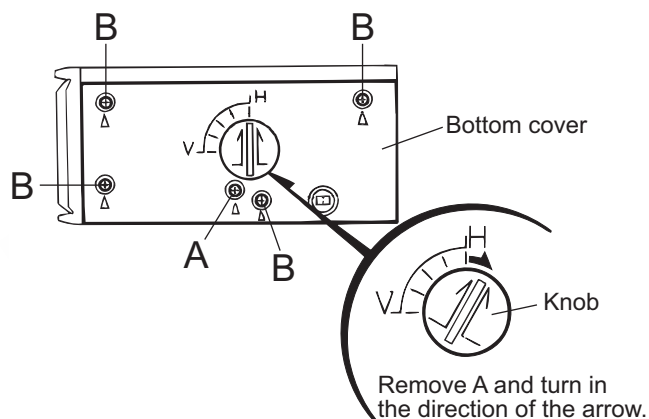

Fig.1
3.1.1 Removing the bottom cover and front panel assembly (See Fig.1 to 4)